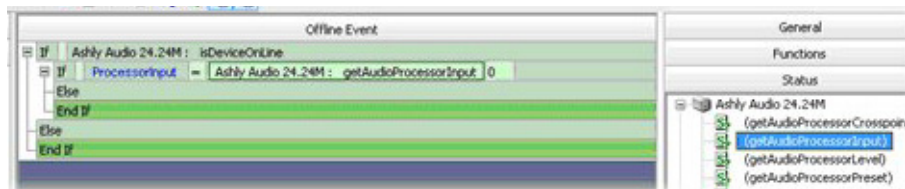

FIG. 258 Creating an IF Conditional with a Variable - Entering a Status Function
- You can also drag-and-drop a status function onto the literal to compare a variable to the result of a status function (FIG. 258):